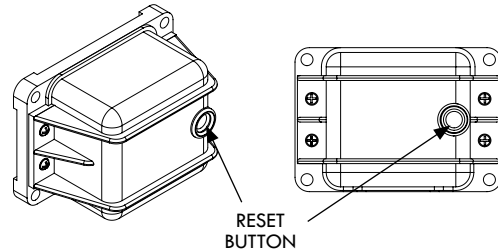

Figure A-145: Vibration Switch RESET button
- B.** With machine running, back off adjusting screw one turn CCW and reset (see Figure A-145). If it will not reset, back screw off two turns CCW, etc. Again turn screw slowly clockwise until actuation occurs. The difference between the two actuating points in "a" and "b" is the normal vibration level in divisions. One dial division is 0.1G; one full revolution is 1.0G.